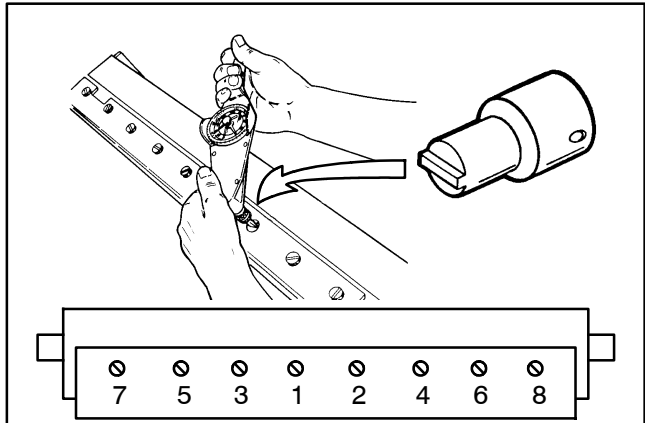

Figure 24
3. Use new screws to secure bedknife to bedbar. Install all screws but do not tighten fully. Then, using a torque wrench and bedknife screw tool, torque screws from **200 to 250 in-lb (23 to 28 N-m)**. Use a torquing pattern working from the center toward each end of the bedknife (Fig. 24).